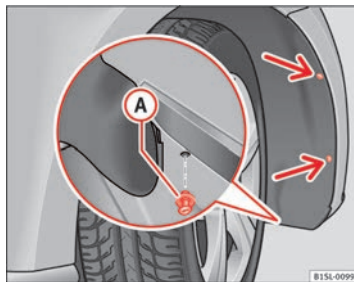
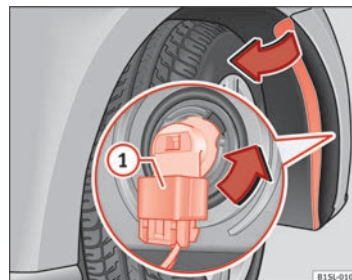

Fig. 151 In the front right wheel arch: Remove the retaining screws (arrows) and take out the expansive rivet (A).
Fig. 152 Changing the bulbs in the headlights
2. Unscrew the 2 retaining screws of the wheel arch trim ⇒ Fig. 151 (arrows) with the screwdriver from the vehicle tool kit ⇒ page 246.
3. Unscrew the expansive rivet in the lower front part of the wheel arch trim (A) with the screwdriver from the vehicle tool kit and completely remove it ⇒ page 246.
5. Release the connector ⇒ Fig. 152 ① and remove it.
6. Turn the bulb holder ⇒ Fig. 152 in the direction of the arrow, **in an anticlockwise direction** as far as it will go and remove it, along with the bulb, pulling backwards.
9. Plug the connector ① into the bulb holder. The connector must audibly click into place.
11. Place the expansive rivet in the wheel arch trim and bumper and press it completely inwards ⇒ Fig. 151 (A).
12. Securely screw the 2 retaining screws ⇒ Fig. 151 (arrows) with a screwdriver. ■